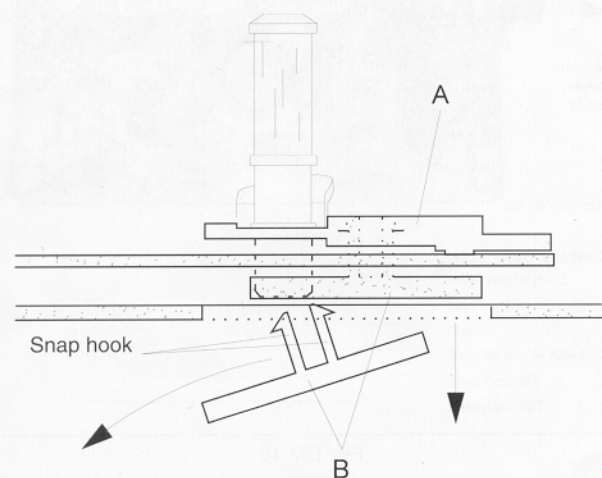

Fig. DM 9
- Compress the two snap hooks with a pair of tweezers (fig. DM 9) and remove the roller assembly (A) from the plate (B).